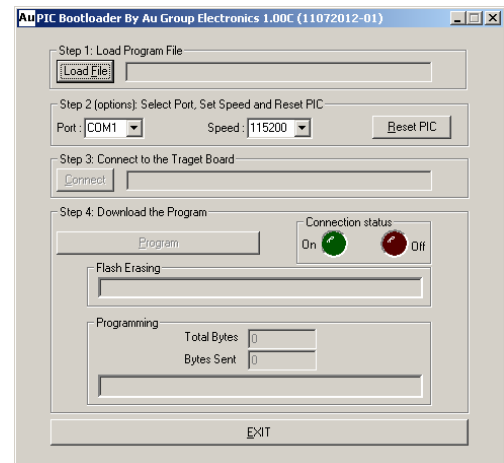

Figure D-9
- Au PIC18 Bootloader is launched, as shown in Figure D-9